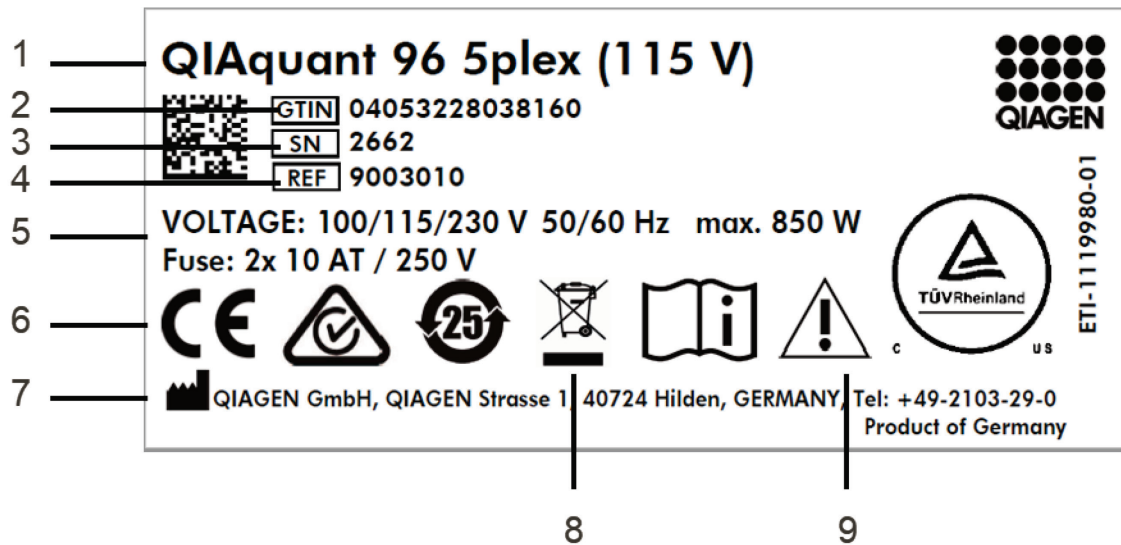

Figure 5. Type plate.
3. Connect the USB-cable to the USB interface of the QIAquant 96 (Figure 5) and to the PC.